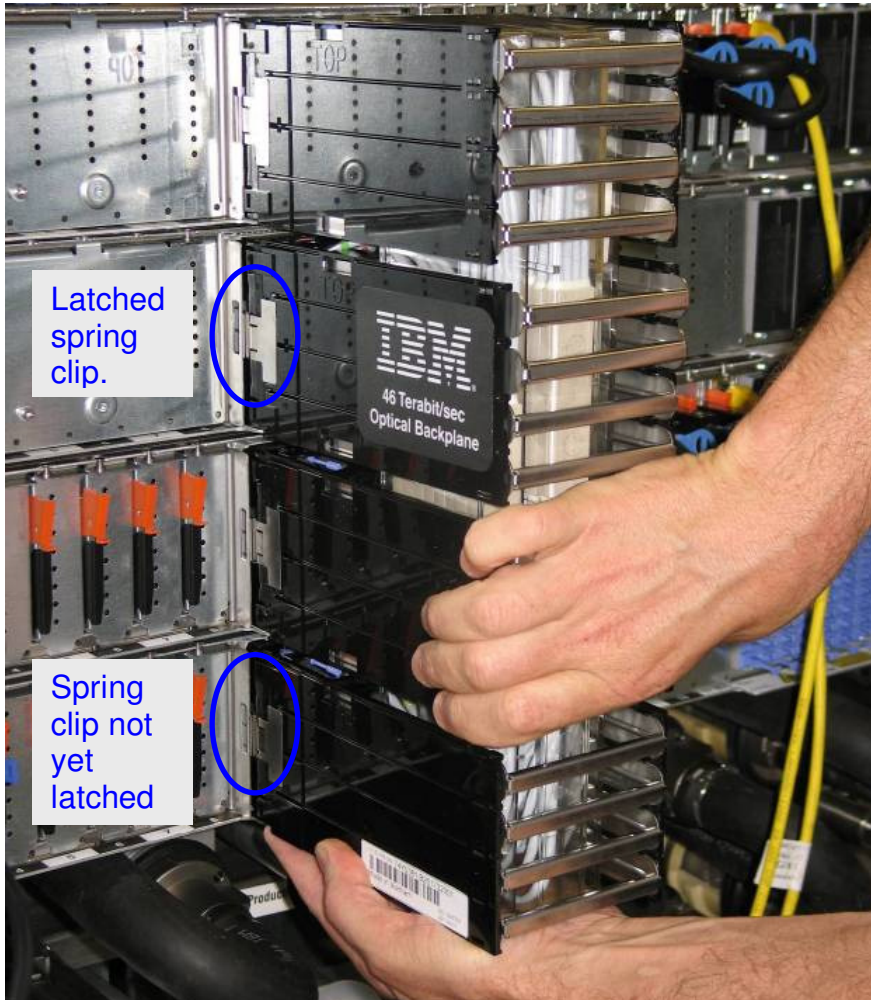

Figure 20 Spring clips latched and unlatched
- STEP 23 Latch the 8 spring clips to the 4 CEC drawers by pressing the sidewalls of the OBE in towards the CEC drawers. Repeat for the other 3 CEC drawers of the SuperNode, working from top to bottom (see Figure 20 and 21).